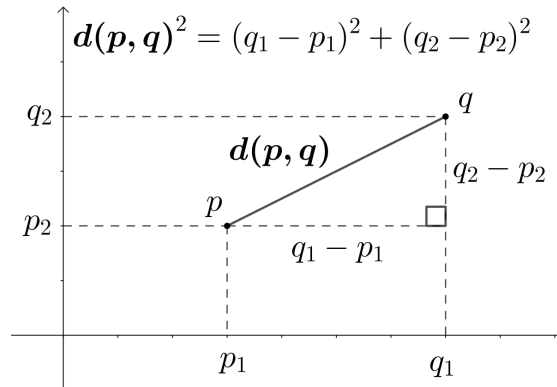

Fig 76: Diagram of euclidean distance.
- 4) The euclidean distance between each key-point in two adjacent frames is calculated with units of meters (Fig 76).